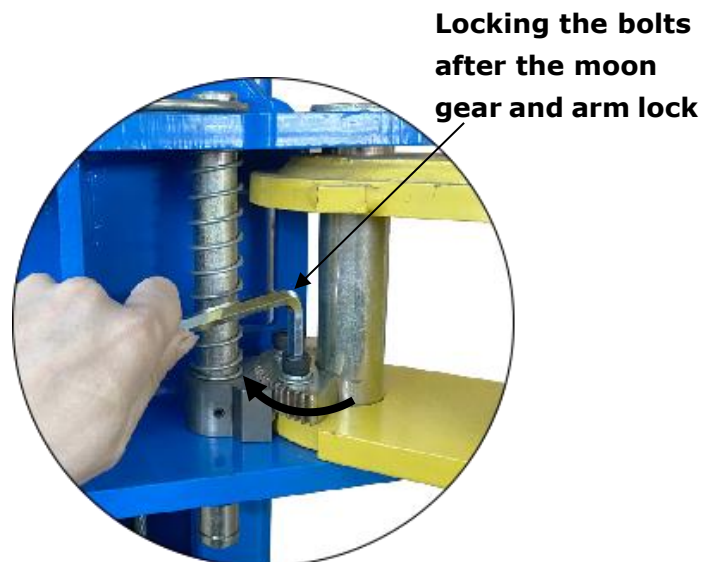

Fig. 34
4. Adjust the moon gear and arm lock to make it to be meshed, then tighten the nut of arm lock (See Fig. 34).